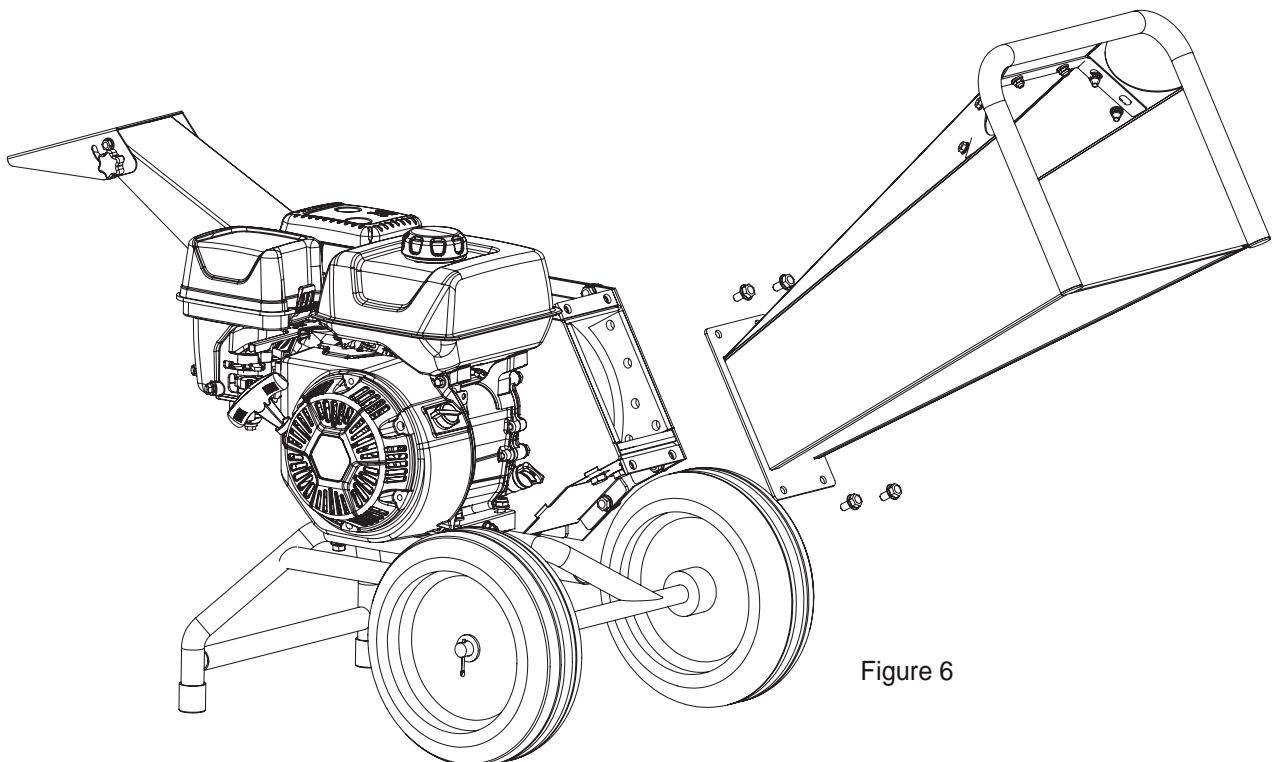

Figure 6
1. Loosen four M8*16 bolts (B), and remove the in-feed bin (A). (See Figure 6)